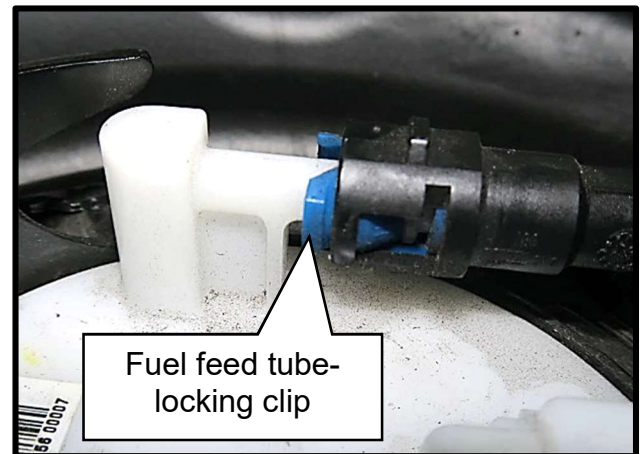

Figure 10
- Verify the blue fuel feed tube locking clip is fully installed into the fuel feed line as shown in Figure 10